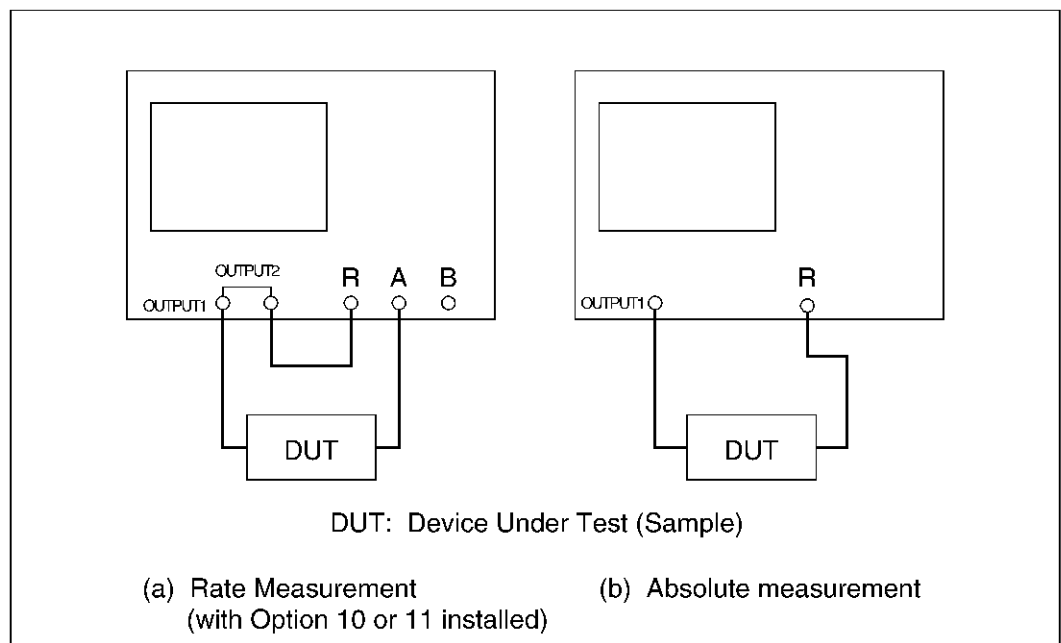

Figure 3-2 Setup (Connection of DUT)
When carrying out a Rate measurement, the filter is connected between the OUTPUT2 and INPUT A (or B) connectors by the cables (refer to Figure 3-2 (a)).
When carrying out an Absolute measurement, the filter is connected between the OUTPUT1 and INPUT R connectors by the cables (refer to Figure 3-2 (b)).
- ① Setup (filter connection) and presetting (Refer to section 3.1.2 and Figure 3-2).
- ② The measurement format is made a magnitude (Logarithmic display).
- ② The measurement format is made a phase display.